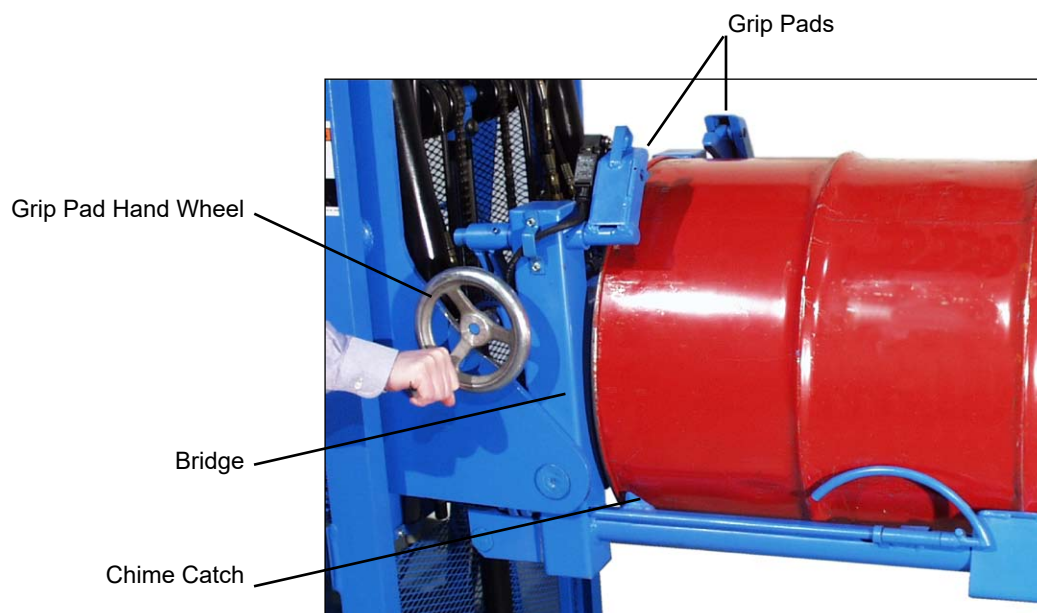

Figure 5.1
2. Roll the MORStak forward until the "bridge" meets the head of the drum. (see Figure 5.1).